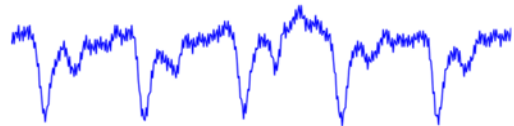

Fig. 5: The scope trace should look like this. The dips should be roughly 500 mV in amplitude, but it really depends on a lot of factors.
- You should see some dips that are roughly a couple 100 mV in amplitude (see Fig. 5).